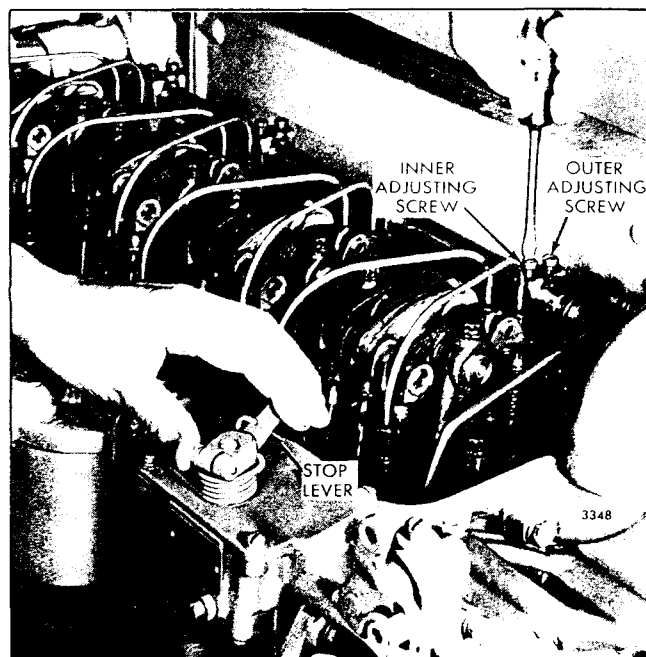

Fig. 2 - Positioning the Rear Injector Rack Control Lever
3. Loosen all of the inner and outer injector rack control lever adjusting screws (Fig. 2). Be sure all of the levers are free on the injector control tube.